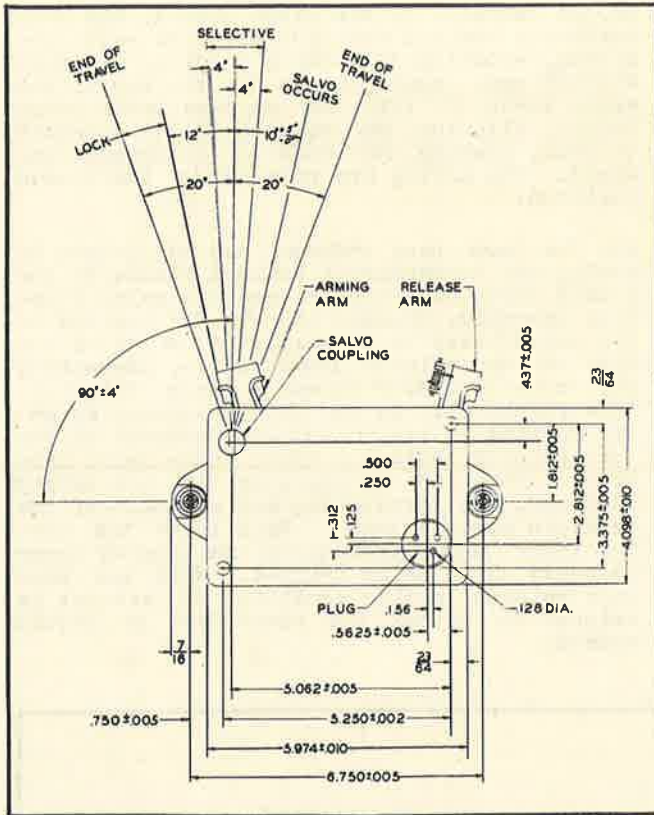

Figure 4 - Dimensional Drawing and Salvo Coupling Movements - Right-Hand
1. Two movable arms are mounted on the front of the type A-2 release; one for the arming of the bomb, and one for releasing the bomb from the rack. The release arm is equipped with a hinged ear, which permits the releasing of a bomb by prying the shackle lever over with a screw driver or similar tool, as shown in figure 3 and figure 4.